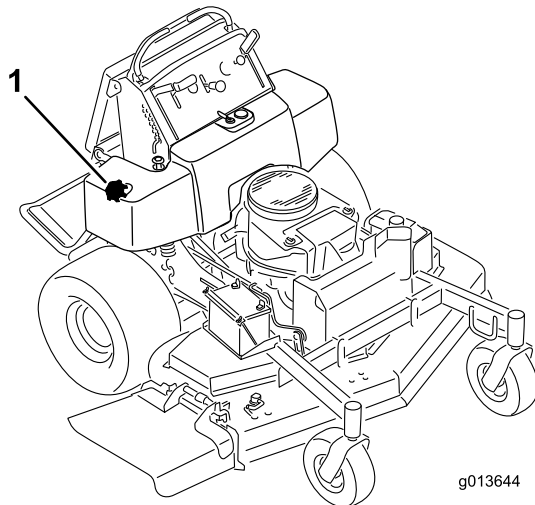

Figure 50
5. Using the syphon pump, drain the fuel into a clean gas can (Figure 50).